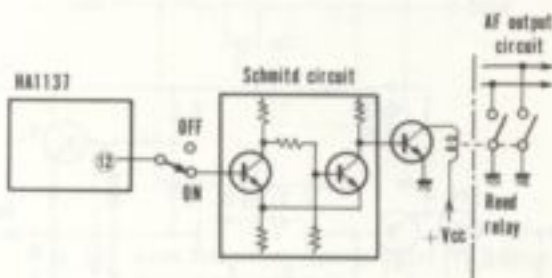

Fig. 5. Circuitry of FM muting
**FM Muting Circuit (Fig. 5)**